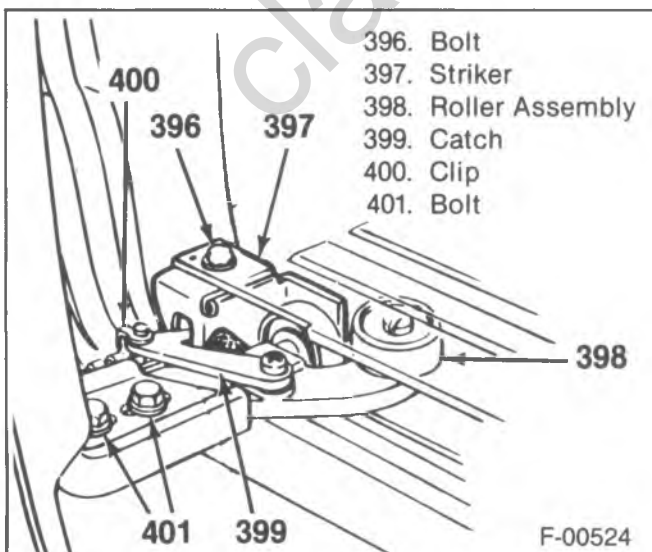

Figure 89—Lower Front Roller Assembly
↔ Remove or Disconnect (Figure 89)
↔ Install or Connect (Figure 89)
- The front edge of the door by loosening the upper front roller bracket to door bolts (figure 87) and the lower hinge to door bolts (figure 89). Align the door to obtain the same gap as in step 1, then tighten the lower hinge to door bolts (figure 89).
- Remove the front lock striker (404).
- Loosen the nut (418) retaining the upper front roller (415) to the upper roller bracket (381).
- Loosen the lower front roller assembly to roller assembly bracket bolts (figure 89).
- Tighten the lower front roller assembly to roller assembly bracket bolts (figure 89).
- Tighten the nut (418) retaining the upper front roller (415) to the upper roller bracket (381).
DOOR HOLD OPEN CATCH ADJUSTMENT (Figure 89)